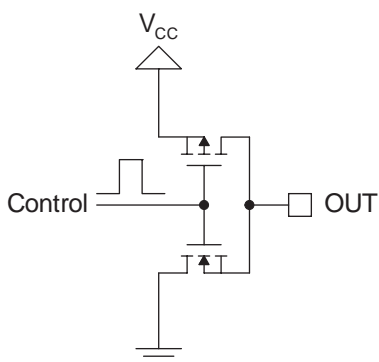

Figure 1: Push/Pull Output Circuit.
2. T_{ON} is the time after latch timeout to 90% of the output voltage. See Figure 1.
3. T_{OFF} is the time after off timeout to 10% of the output voltage. See Figure 1.
Each device push/pull output may be represented by the following circuit and simplified equivalent model (Figures 1 and 2):